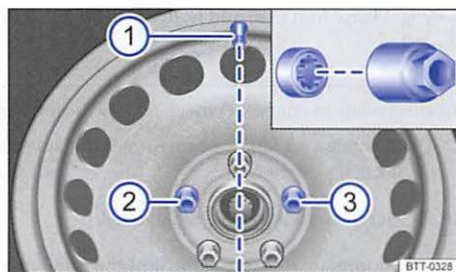

Fig. 183 Changing a wheel: Tire valve ① and installation points for the anti-theft wheel bolt ② or ③.
Before attaching the wheel cover, the anti-theft wheel bolt must be installed at point ⇒ page 332, fig. 183 ② or ③. Otherwise, the wheel cover cannot be installed.
Make sure that the valve cut-out is aligned with the valve ⇒ page 332, fig. 183 ①, and press the wheel cover onto the wheel rim. Make sure that the wheel cover is latched onto the rim along the entire circumference. ◀
On a wheel with a wheel cover, the anti-theft wheel bolt must be installed at points $\Rightarrow$ fig. 183 ② or ③. Otherwise, the wheel cover cannot be installed.
- Place the anti-theft wheel bolt in position $\Rightarrow$ page 332, fig. 183 ② or ③. Hand tighten it using the adapter by turning clockwise.